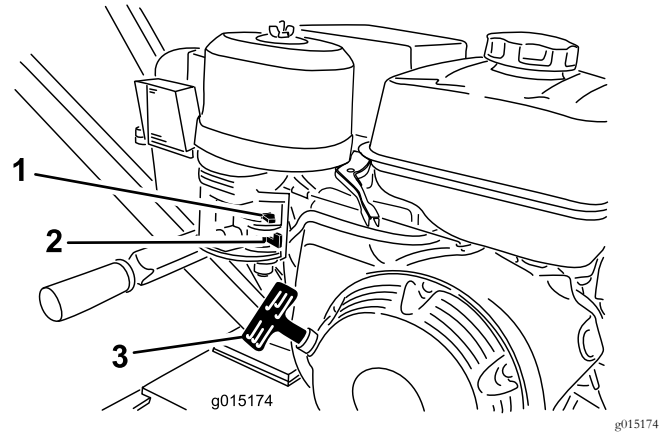

Figure 9
1. Move the fuel valve to the OPEN position, all the way to the right (Figure 9).
2. Move the choke lever to the ON position (Figure 9).
5. Pull the recoil-start handle lightly until you feel resistance, then pull the handle briskly (Figure 9). Return the recoil-start handle gently.